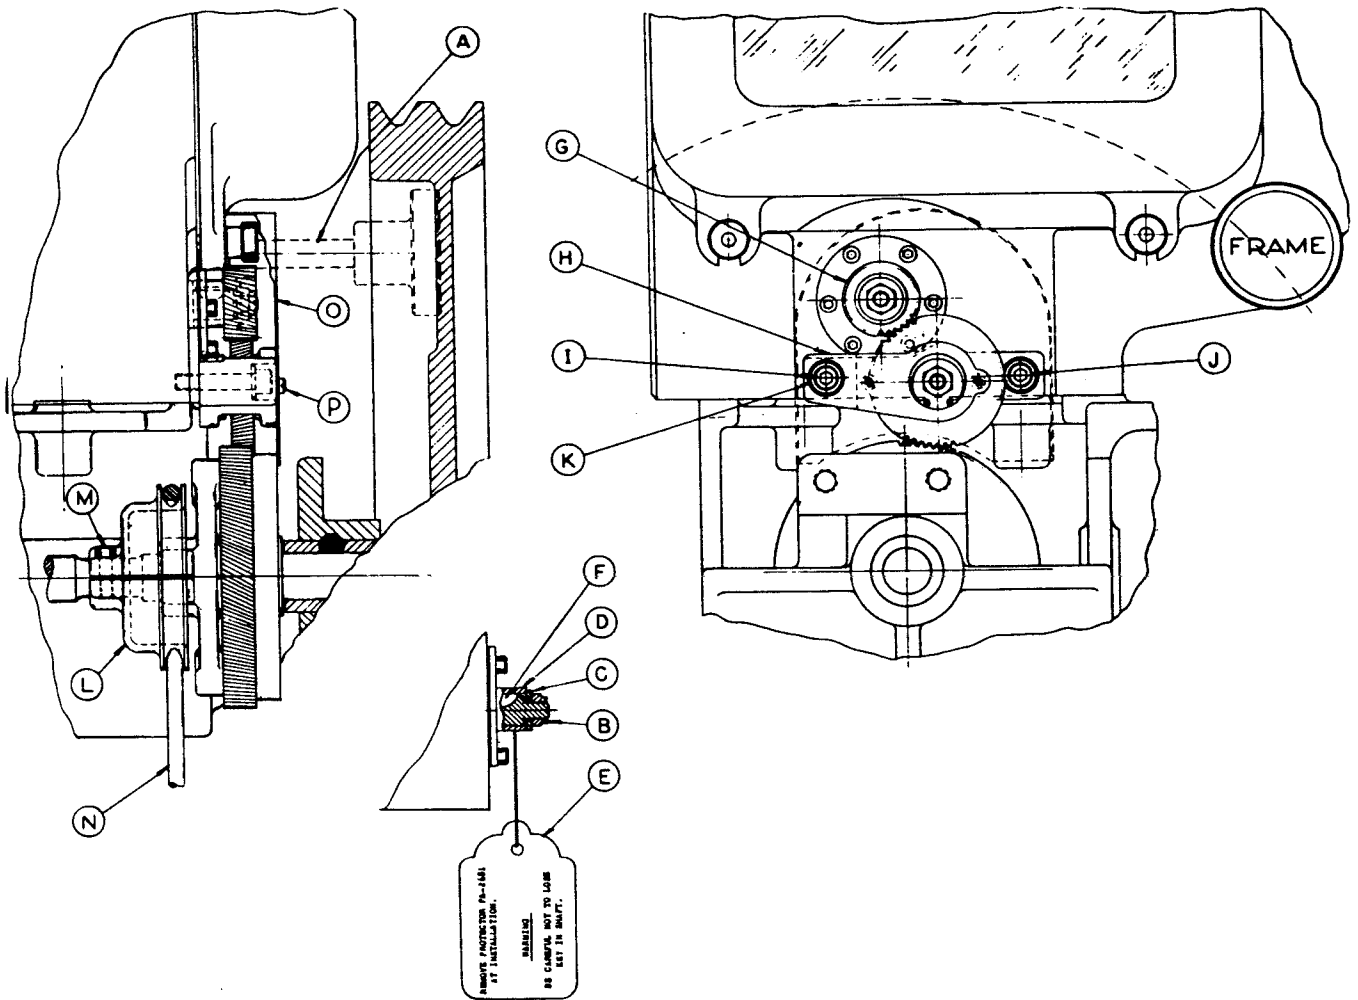

FIGURE 1-6
14) Install the soundhead cover (W), fastening with screws (U) and (V) that were used with the former cover.
c. Western Electric 206 and 208 Type Reproducer Sets (G-2149) (See figure 1-6.)
1) Cut the framing knob shaft (A) of the projector 1/2 inch from the main frame on the gear side, so that it will not interfere with the reproducer set flywheel. Smooth the end of the shaft and discard the framing knob.
2) Remove locknut (B) and washer (C) from the projector and retain.
3) Remove protector (D) and tag (E) from the projector and discard.